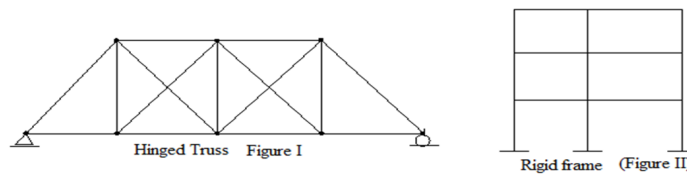

Figure 1
- (b) Find the degree of redundancy of the Figure 1 [7M]